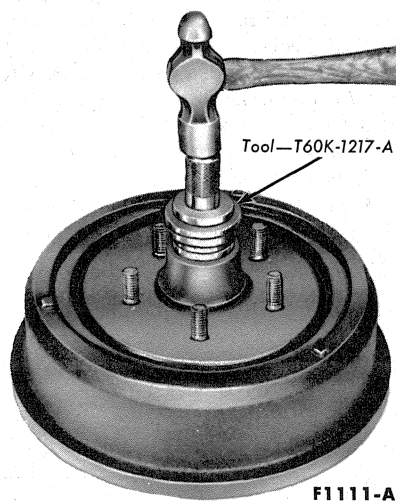

FIG. 7—Installing Front Wheel Bearing Cup
9. If the inner and/or outer bearing cup(s) were removed, install the replacement cup(s) in the hub with the tool shown in Fig. 7. Be sure to seat the cups properly in the hub.
3. Remove the protective coating from the new hub and drum with carburetor degreaser. Install new inner and outer bearing cups in the new hub with the tool shown in Fig. 7. **Be sure to seat the cups properly in the hub.**